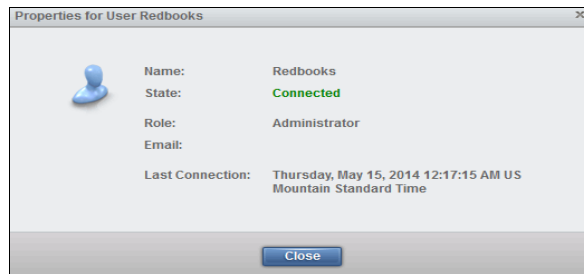

Figure 4-61 User properties
- ▶ **Properties:** This option displays the properties of the user, the state of the user, and the user's last connection, as shown in Figure 4-61.